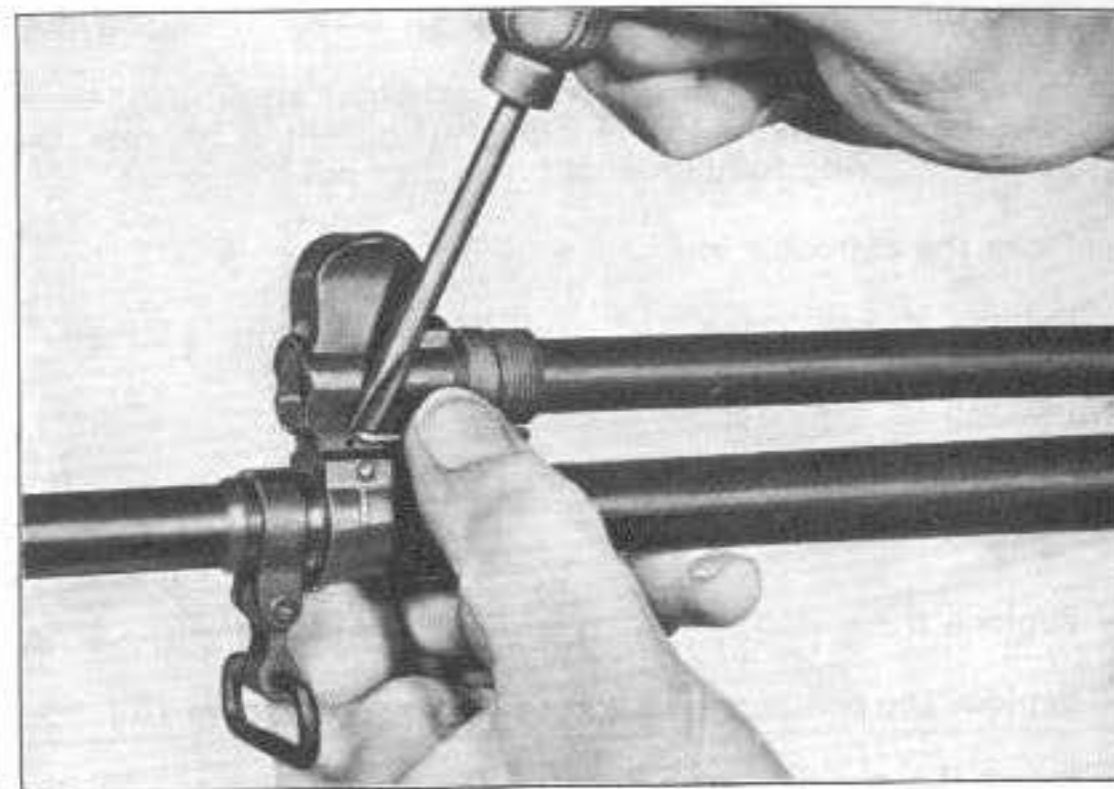

Fig. 138
- Replace the gas regulator sleeve spring; use a screwdriver to push the ends of the spring into their housing in the gas block (fig. 138).